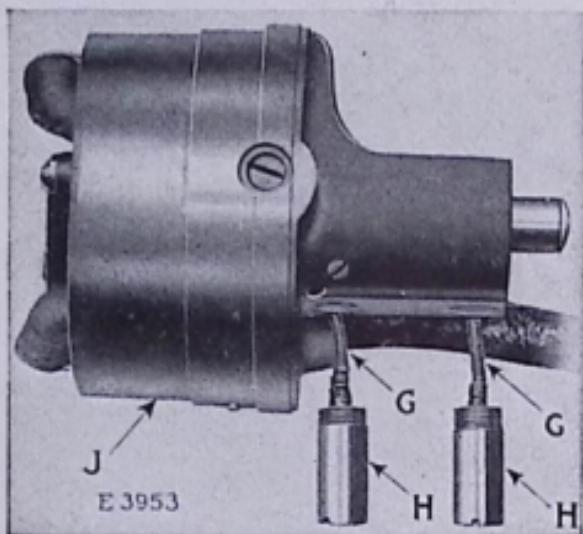

FIG. 30. VIEW OF MOTOR, SHOWING GREASE CUPS REMOVED
1. When the machine is shipped from the factory, the two motor grease cups (HH, Fig. 30) are filled
- Withdraw the entire motor (J, Fig. 30) from the machine by turning it slightly from side to side and at the same time pulling it toward you. The motor should only be withdrawn far enough to expose the two
grease cups (HH, Fig. 30). Do not disconnect any of the electric wiring of the machine or the motor.
- (d) Unscrew the two grease cups (HH, Fig. 30).
- (h) Replace the grease cups, being sure that the wicks (GG, Fig. 30) enter the small holes which lead to the armature shaft.